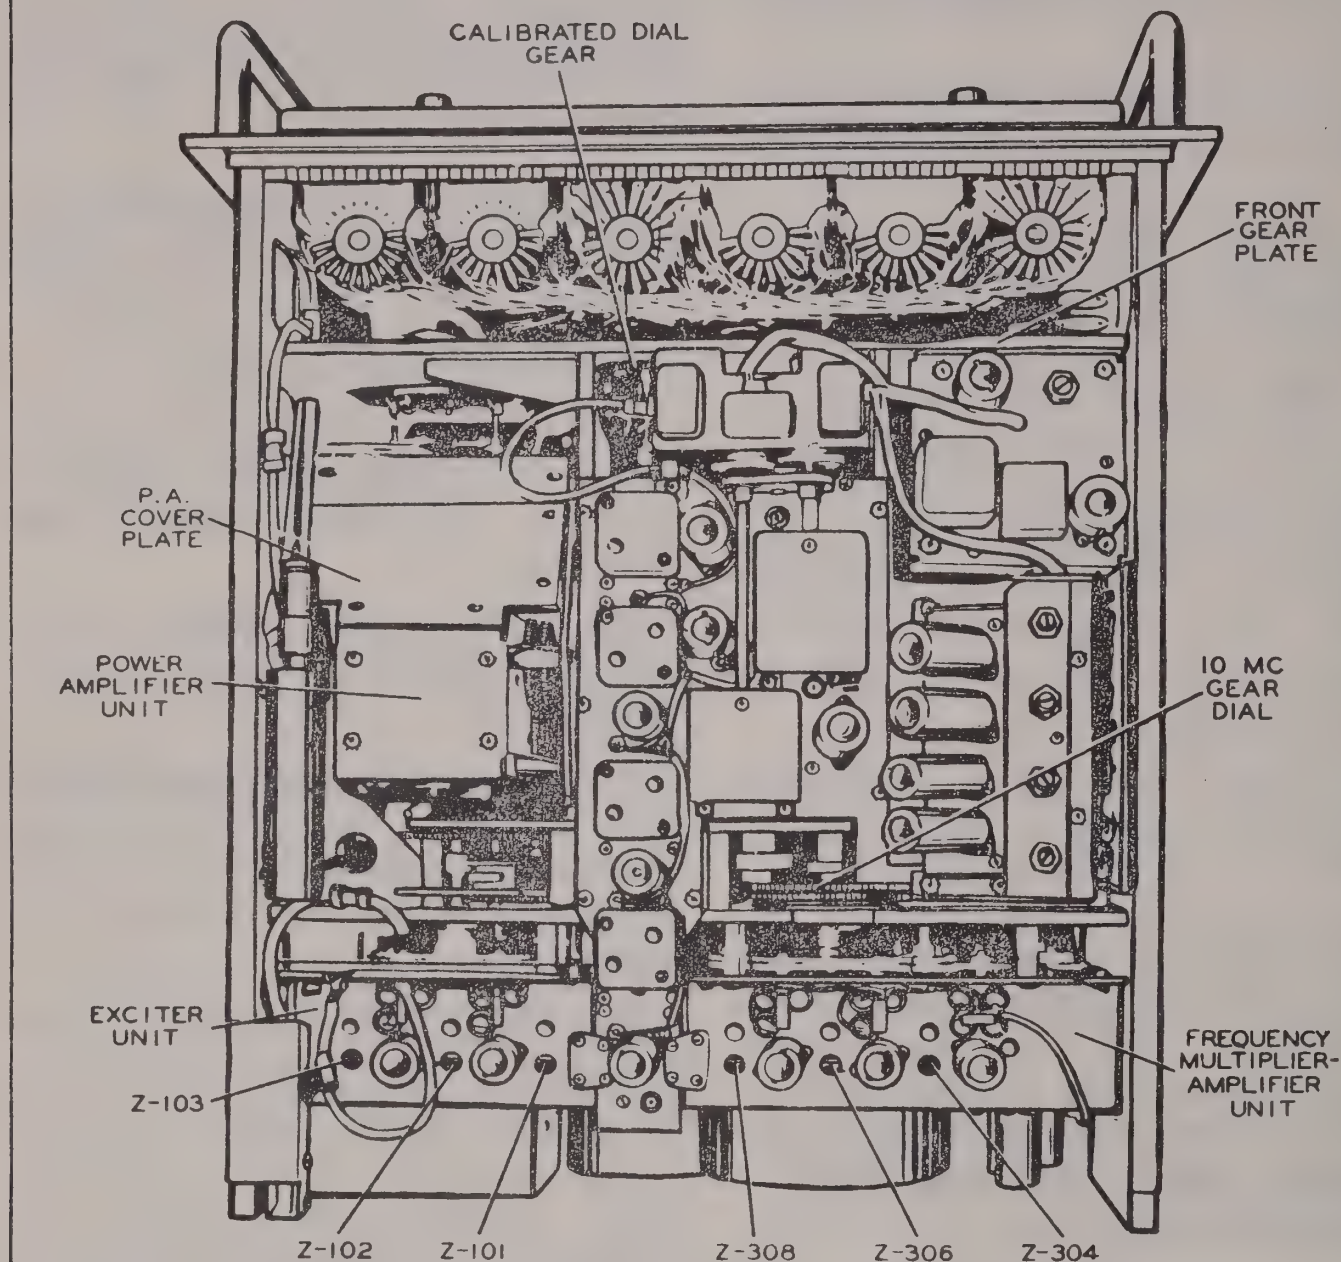
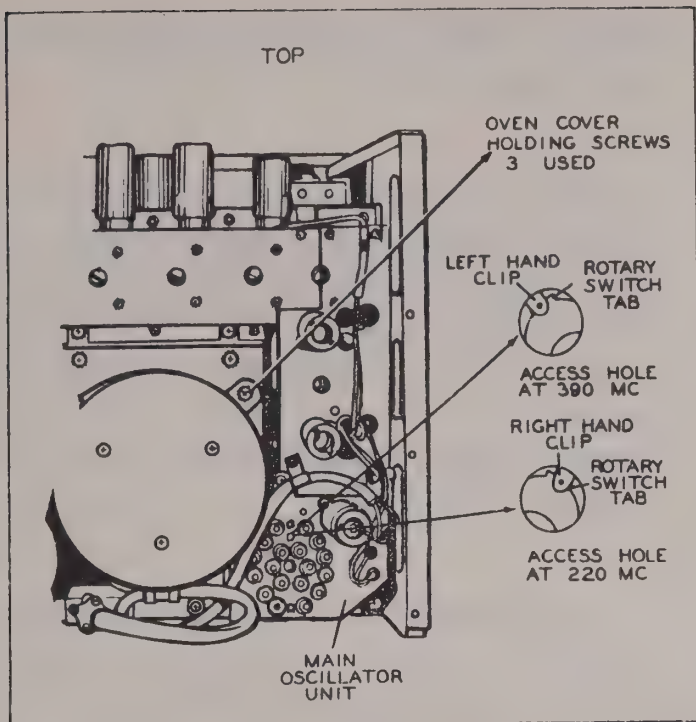

Figure 3-4 Radio Transmitter T-217A/GR, Top View, Cover Removed
Figure 3-5 Radio Transmitter T-217A/GR, Partial Rear View, Cover Removed.
(5) Set the POWER ON-OFF switch on the modulator to the ON position.
(6) Set the CHANNEL SELECTOR on the transmitter to Channel 1.
(7) Set the three numbered CHANNEL switches on the transmitter to 390.5 mc on Channel 1.
(8) Observe the rotor bars through the access holes in the tuner of the Exciter Unit. The access holes over tuners Z-101 and Z-102 are shown in Figure 3-4. The rotor bars should be directly above the driven shaft as viewed from the top of the tuners.
(9) Set the three numbered CHANNEL switches on the transmitter to 300.5 mc on Channel 1.
(10) Observe the rotor bar through the access hole of Z-103 on the Exciter Unit. The access hole over Tuner Z-103 is shown in Figure 3-4. This rotor bar should be directly above the driven shaft as viewed from the top.
(11) Set the three numbered CHANNEL switches to 220.0 mc on Channel 1.
(12) Observe that the rotary switch tab is making connection with the right-hand clip on the Main Oscillator Unit. See Figure 3-5.
(13) Set the three numbered CHANNEL switches to 390.0 mc on Channel 1.
(14) Observe that the rotary switch tab is making connection with the left-hand clip on the Main Oscillator Unit. See Figure 3-5.
(15) Remove the rear plate from the transmitter by removing the Phillips head screws.
(16) Remove the three Phillips head screws holding the crystal oscillator oven cover and remove the oven cover. See Figure 3-5.
(17) Observe that the rotary switches are making contact with the 41.11111 mc crystal socket pins (Position No. 1).
(18) Replace the crystal oven cover and secure it with the Phillips head screws.
(19) Remove the six Phillips head screws from the Frequency Multiplier-Amplifier Unit side cover schematic plate and remove the plate.
(20) The shorting clip of the toroidal tuners should be on the smallest coil turn.
(21) The calibrated 10 MC GEAR DIAL in front of the Frequency Multiplier-Amplifier Unit should be indicating "39". See Figure 3-4.
(22) Observe the rotor bars through the access holes on the Frequency Multiplier-Amplifier Unit. These holes, as viewed from the top, reveal tuners Z-304, Z-306, and Z-308 as shown in Figure 3-4. The rotor bars in each of the tuners should be directly above the driven shaft as viewed from the top.
(25) Locate the couplers behind the front panel as viewed from the bottom of the transmitter. These couplers are located between the Frequency Selector Unit and the front gear plate.
(26) The scribe lines on the couplers should be in line with the scribe lines on the adjacent blocks.
(27) The calibrated DIAL GEAR, located forward of the I-F Oscillator Unit, should read "0" as viewed from the top of the unit. See Figure 3-4.
(28) Loosen the screws in the Driver Unit access cover plates and slide the plates forward.
(29) Set up the three numbered CHANNEL switches on the transmitter to 360.5 mc on Channel 1.
plate of the Power Amplifier Unit. See Figure 3-4.